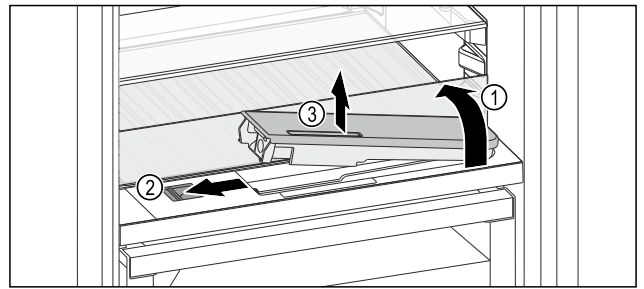

Fig. 154
- ▶ Lift the glass panel and fold towards the rear until it clicks into place Fig. 154 (1).
- ▶ Slide the slider Fig. 154 (2) to the left.
- ▶ Remove the water tank Fig. 154 (3).